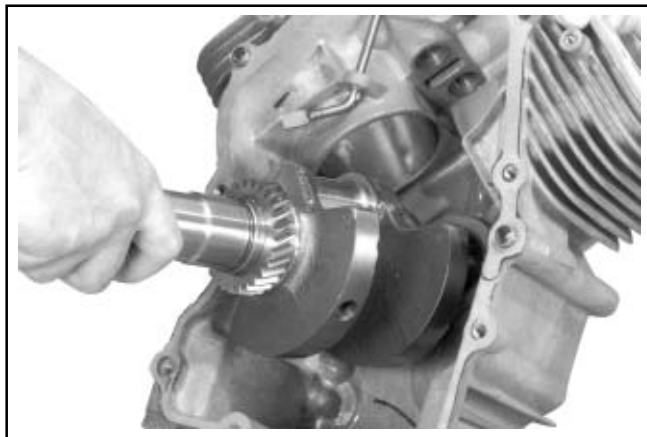

Figure 9-68. Removing Crankshaft.
1. Carefully pull the crankshaft from the crankcase. See Figure 9-68. Note thrust washers and shims if used.